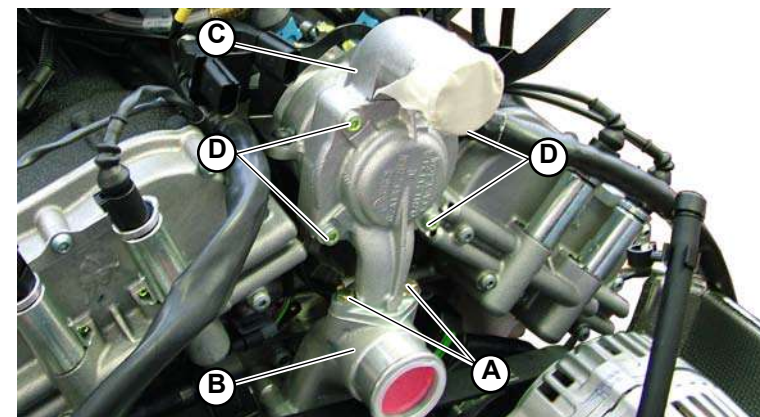

Fig.1
2. Remove the 4 screws (D-Fig.1) and remove the cover.